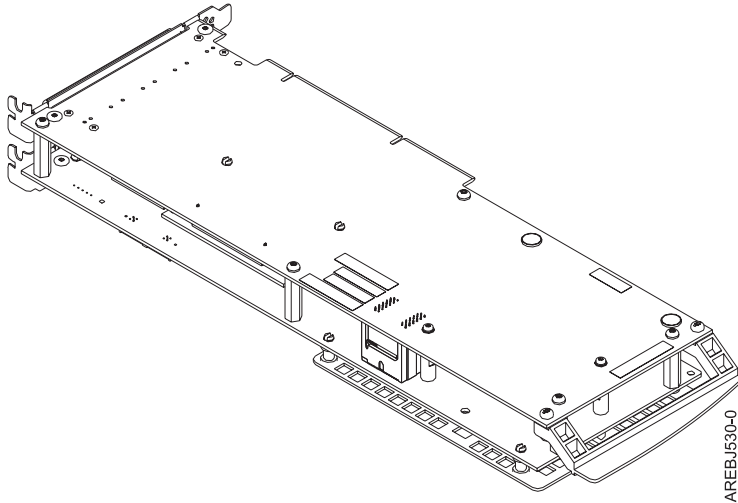

Figure 32. 572F/575C card set adapter
2. Place the 572F/575C card set adapter on an ESD protective surface and orient it as shown in Figure 32.